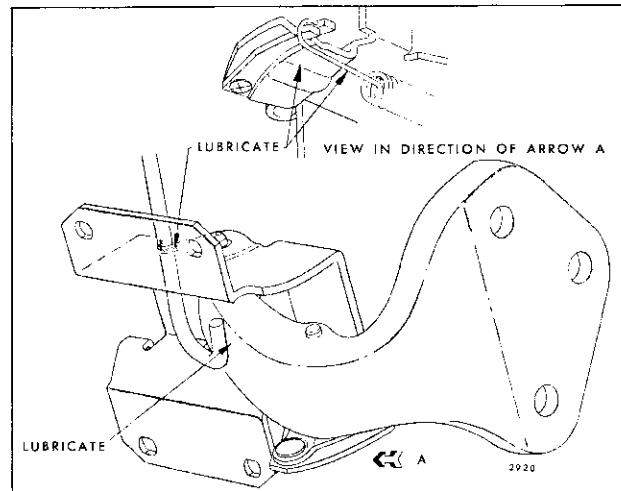

Fig. 2-4—Front Door Hinge Assembly - "E" Body Styles
3. Lubricate the torque rod on the "E" series lower hinge assembly with molybdenum disulfide (Fiske Bros. 475-10DS or equivalent) at the points indicated (Fig. 2-4).